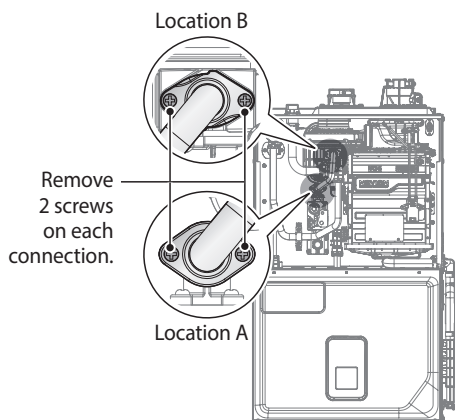

Figure 3. Detaching the Gas Valve Outlet Adapter from the Gas Valve and Fan Motor Assembly
- Remove the two screws using a Phillips-head screwdriver at location A – the connection above the gas valve where it connects to the gas valve outlet adapter. See Figure 3 for reference.